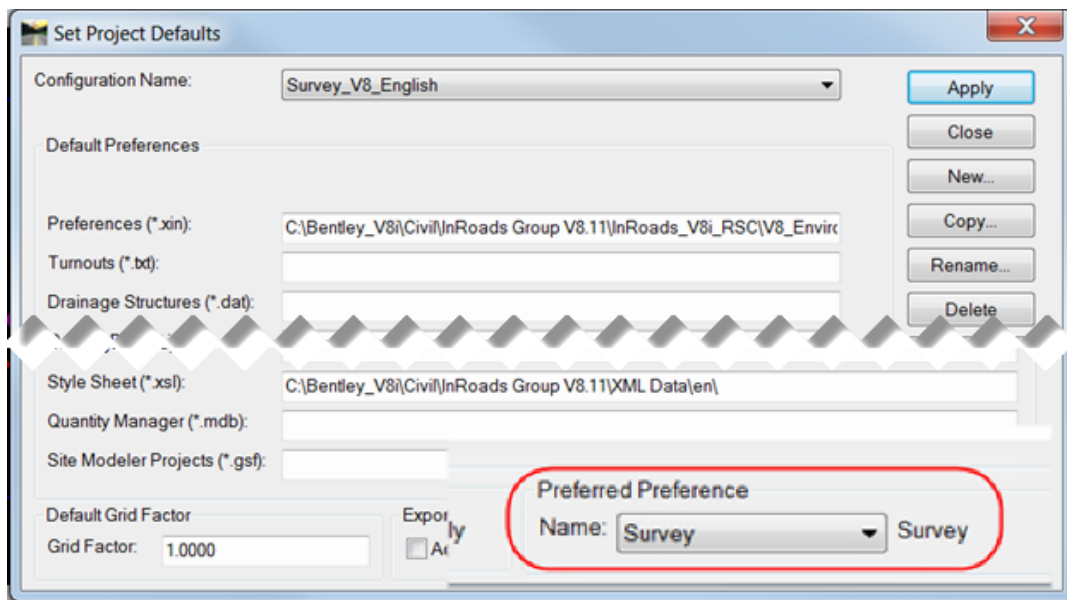

Figure 1-9 InRoads Set Project Defaults Dialog Box
- N. Complete this step only if you are using the V8 level structure. From the InRoads Menu Bar “reselect” **File > Project Defaults**. At the bottom of the dialog box select **Survey** for the Preferred Preference (Figure 1-9). Click **Apply** and **Close**.